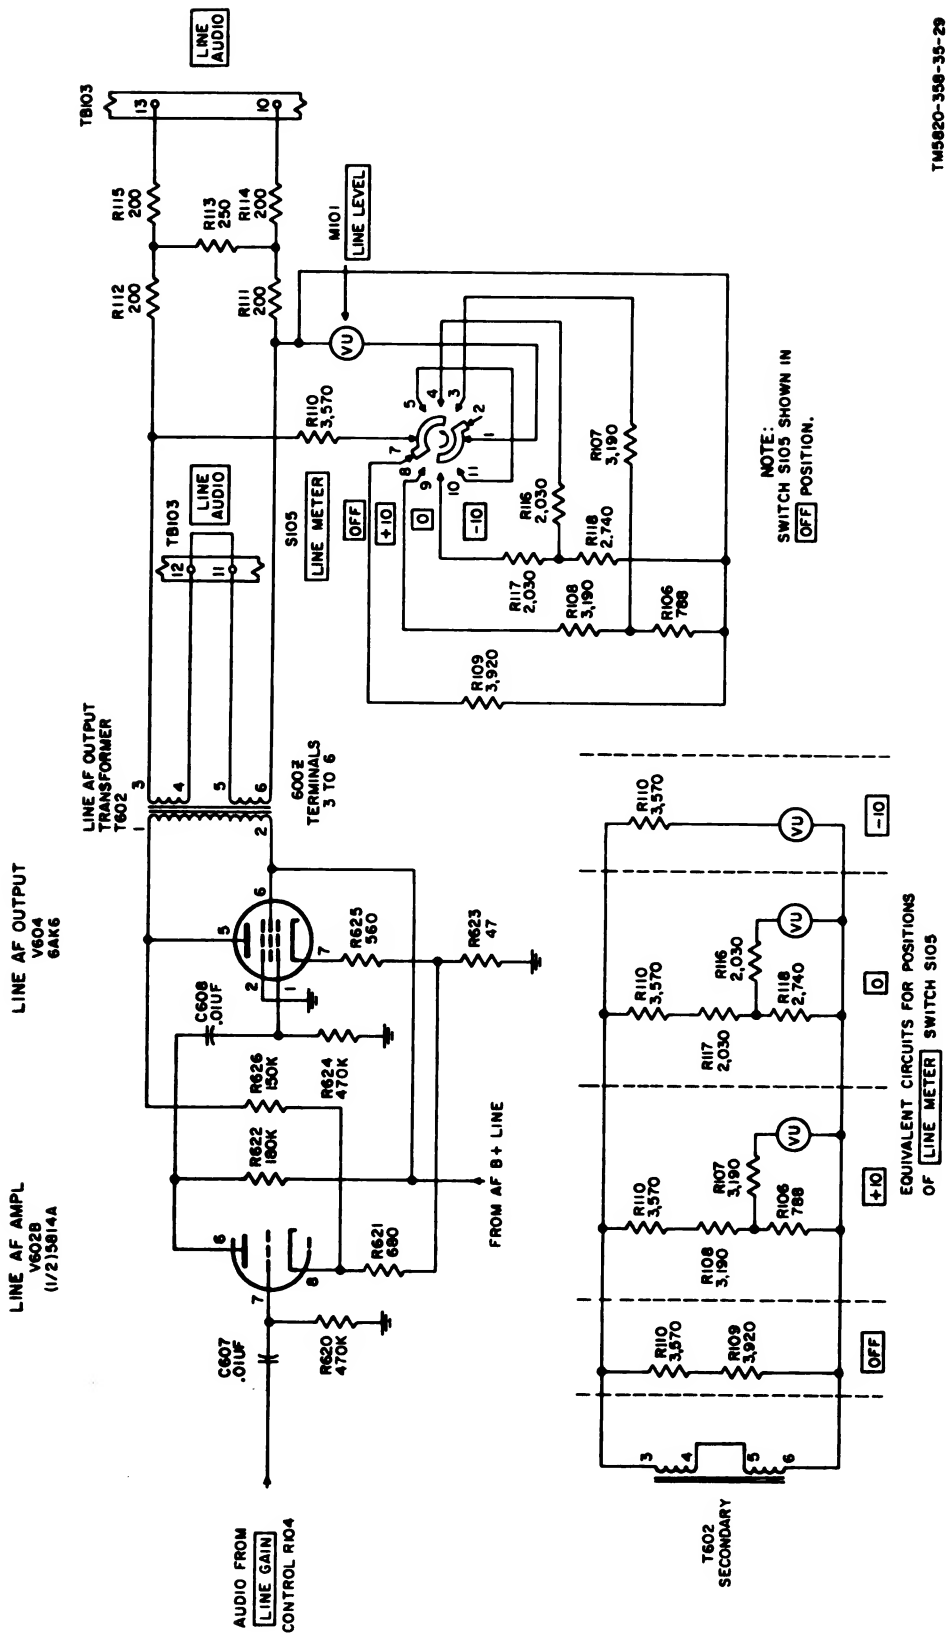

Figure 25. Line audio channel, simplified schematic diagram.
25. Line Audio Channel (fig. 25)
b. The audio signal at T602 of terminal 3 is fed to terminal 7 of one of the two segments of LINE METER switch S105 through resistor R110. This switch has four positions: OFF, +10, 0, and -10. The schematic diagram in the lower left-hand corner of figure 25 shows the equivalent circuit for each position of LINE METER switch S105. When in the OFF position, R109 and R110 load the secondary of T602, and LINE LEVEL meter M101 is out of the circuit. In the +10 position, resistors R106, R108, and R110 are placed across the T602 secondary, and M101, in series with R107, measures the voltage across R106. In the 0 position, a similar circuit combination is used, except that R110, R117, and R118 are in series across T602; and M101, in series with R116, measures the voltage across R118. In the -10 position, LINE LEVEL meter M101 and series-connected resistor R110 are placed directly across the secondary winding of T602.